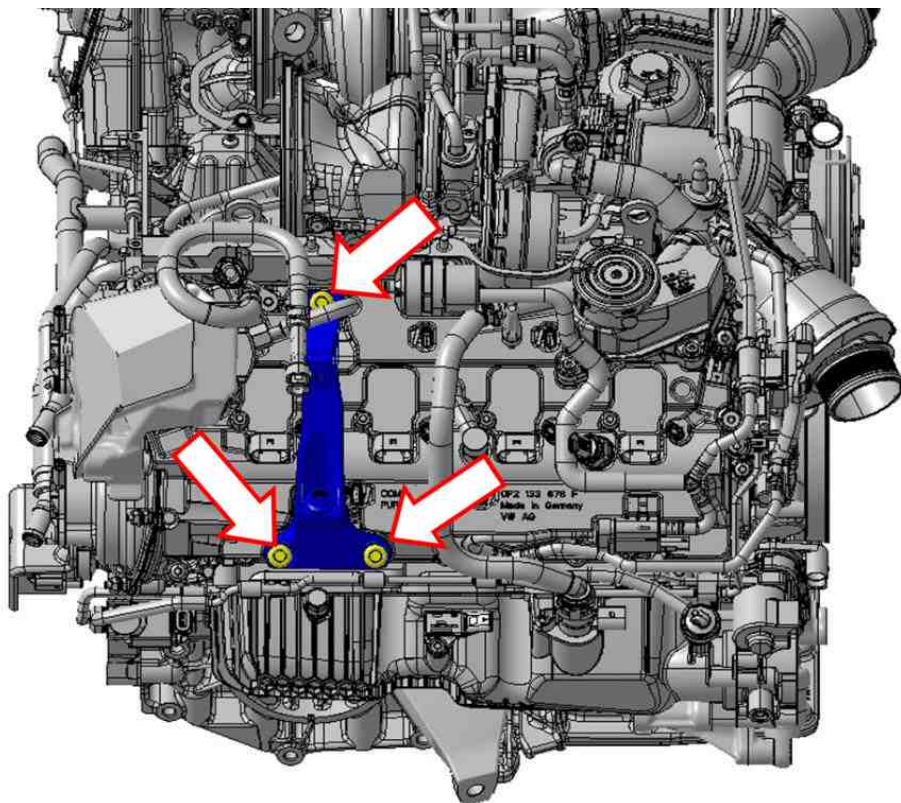

Figure 2
- Right hand upper bracket fixings (Figure 2) - Torque to 20Nm